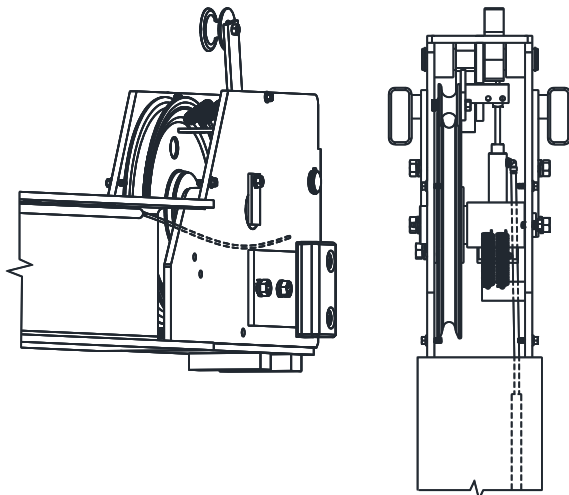

Fig 12 – 5/32 Air Line Connection
30) Route power side front and rear cross beam air lines through power runway (See Figure G) to Tee with 5/32" airline provided. Use welded rings inside the power runway to secure air lines. Insert 5/32" air line through the tubing in front of the crossbeams **Fig 12**